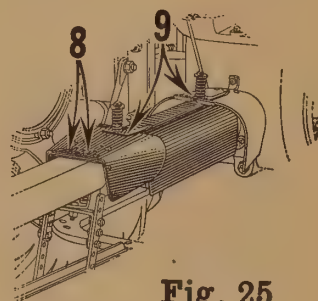

Fig. 25
8. (Fig. 25.) Bolt power shaft shield to **rear** set of holes in power shaft front bearing housing.
9. (Fig. 25.) Attach universal joint and pipe connection shield to take-off shaft shield on tractor and to shield on power shaft front bearing as shown.
8. (Fig. 25.) Bolt power shaft shield to rear set of holes in power shaft front bearing housing.